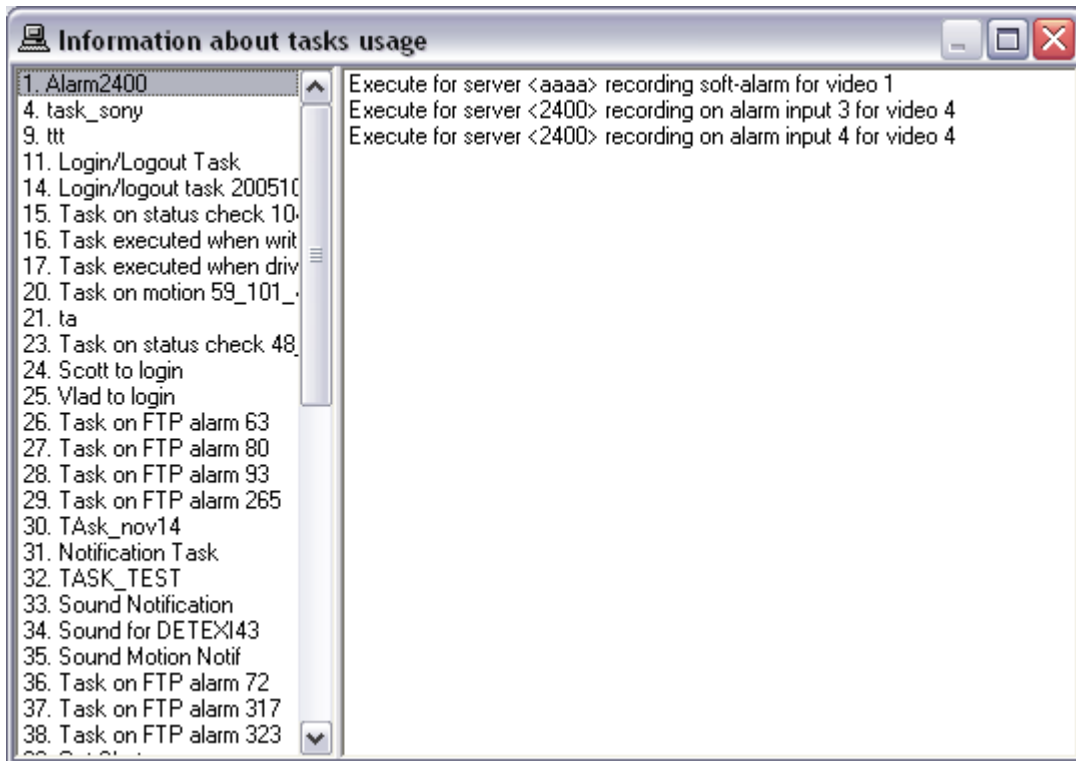

Fig 71. NVR Control Center
1. In the **NVR Control Center — Tasks** click on **Where Used** button at the top-right — **Information About Task Usage** page appears (Fig 71).